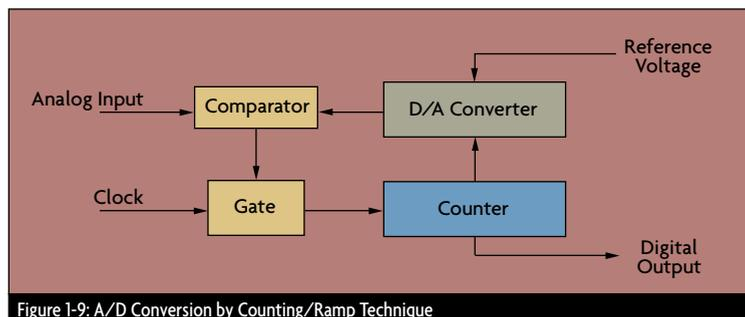

Figure 1-9: A/D Conversion by Counting/Ramp Technique
- **Ramp/counter:** Similar to successive approximation designs, counting or ramp-type A/D converters use one comparator circuit and a D/A converter (Figure 1-9). This design progressively increments a digital counter and with each new count generates the corresponding analog